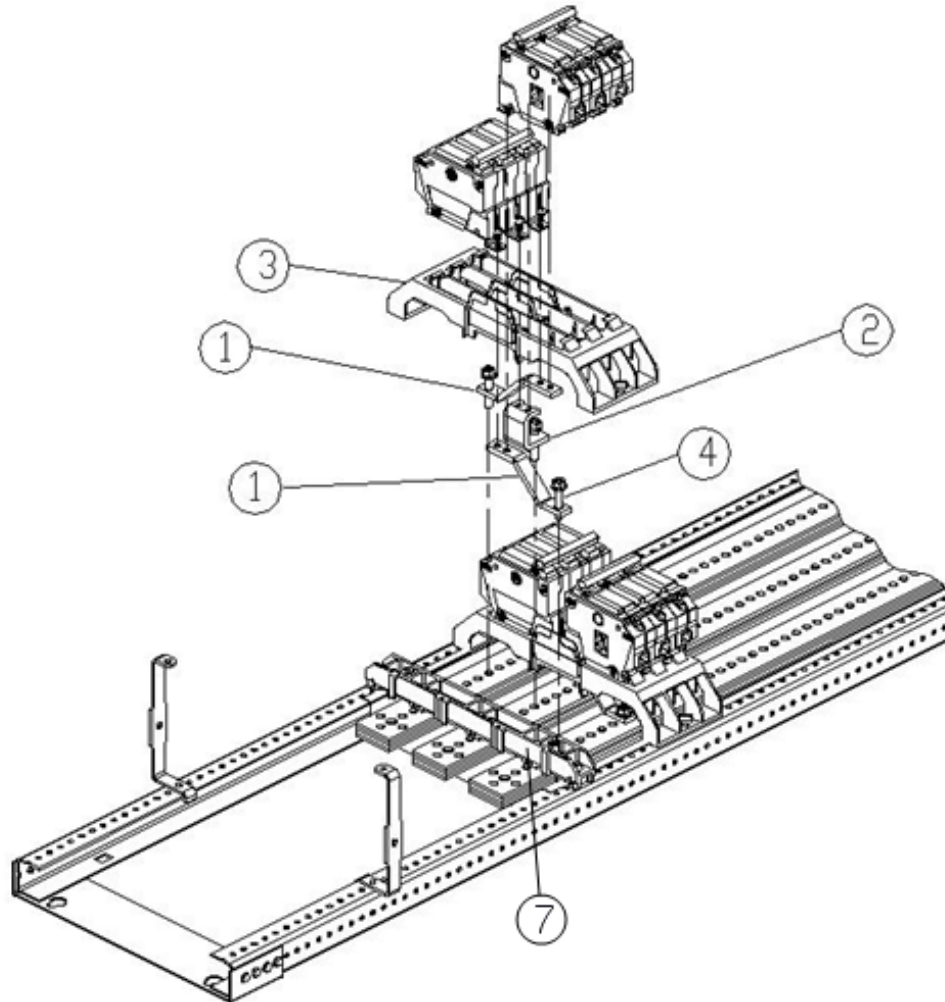

Figure 1. Installation of a THQB circuit breaker kit on interior, catalog number ASPP6QB6D, into an A-Series® II Panelboards.
Use the following procedure to install a THQB circuit breaker kit. Call-out numbers in the illustrations and numbers in brackets in the text refer to the Item Numbers in Table 1. Installation of a three-pole kit is illustrated in Figure 1.
5. Place the breaker as shown in fig.1 such that breaker strap hole aligns with breaker mounting strap tapped hole and other end of breaker snaps with 3X base lancing slot provided and then tighten terminal screws completely with 27-36 in-lb.